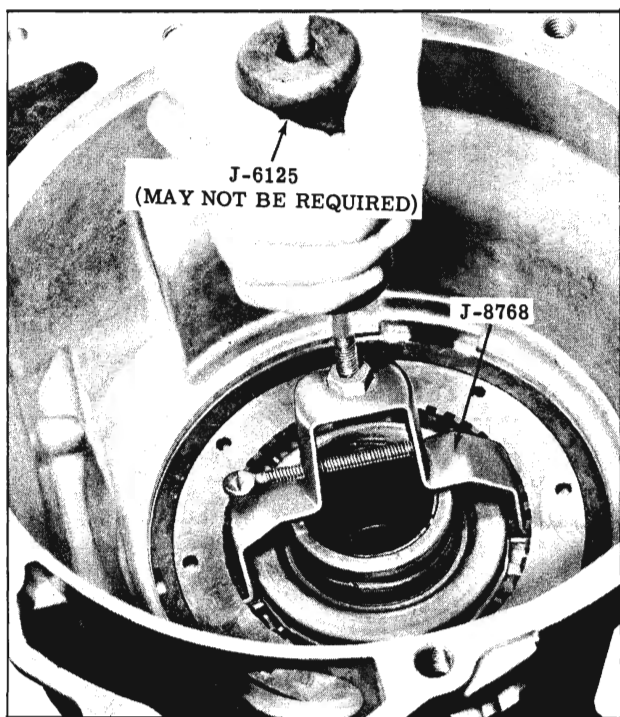

Fig. 3-46 Removing Reverse Cone
12. Using Reverse Cone Puller, J-8768, remove the reverse cone and reverse stationary cone. Position tool under lugs of reverse cone and pull upward. (Fig. 3-46)